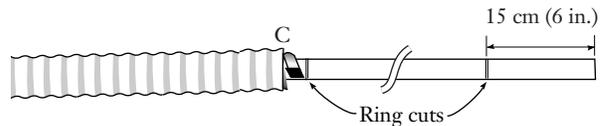

Figure 21
5.10 Ring cut the inner jacket at the end of the exposed armor and 15 cm (6 in.) from the end of the cable (Figure 21). Use care to avoid damaging the aramid yarn strength elements under the jacket.